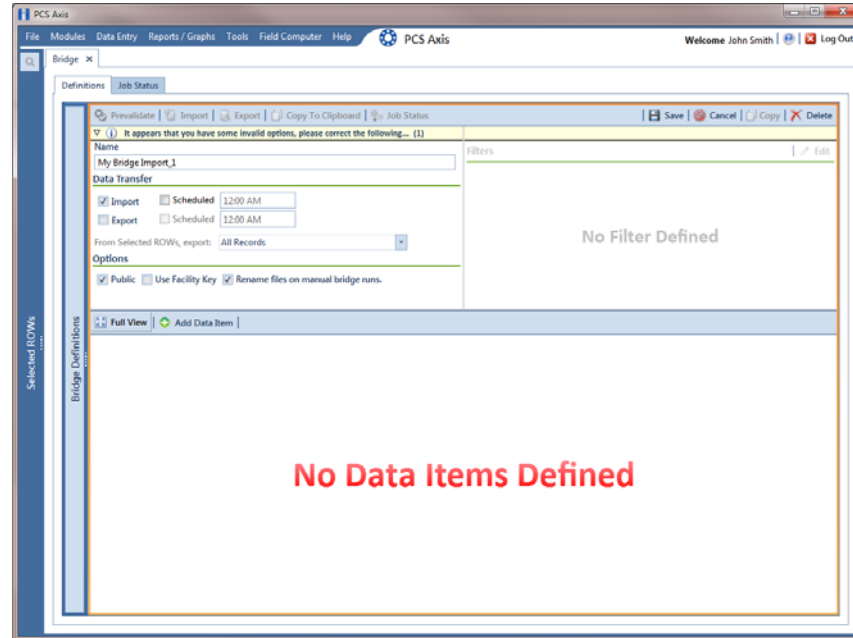

Figure 10-6. Bridge Import Definition
- 4 Type a unique name for the definition in the **Name** field (Figure 10-6, page 431).
- 5 To set properties in the *Data Transfer* group box, follow these steps (Figure 10-6, page 431):
- 6 To set properties in the *Options* group box, follow these steps (Figure 10-6):